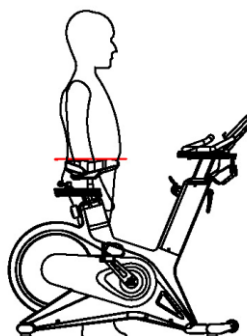

Figure 6
- 3) Adjust the front and rear position of the saddle. When your foot is in front, your knee protrudes straight above your foot, as shown in Figure 6.